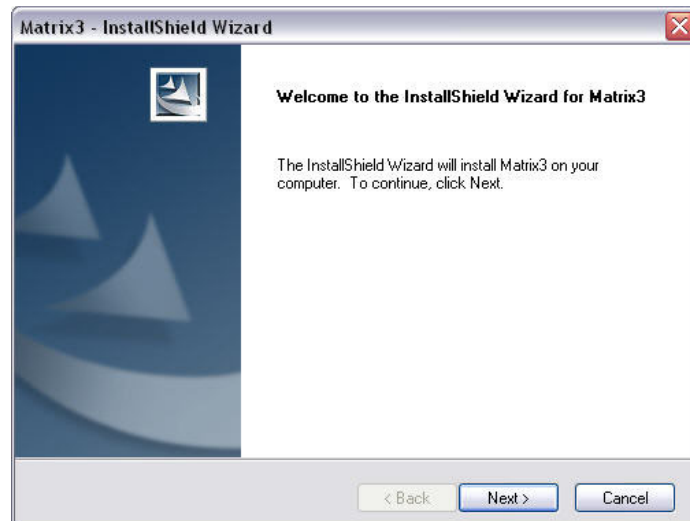

FIG. 17
10. Click NEXT. The InstallShield Wizard for Matrix3 begins the installation (FIG. 17).